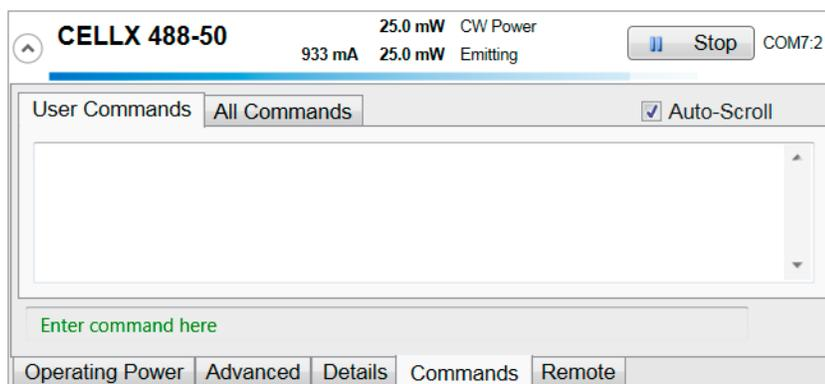
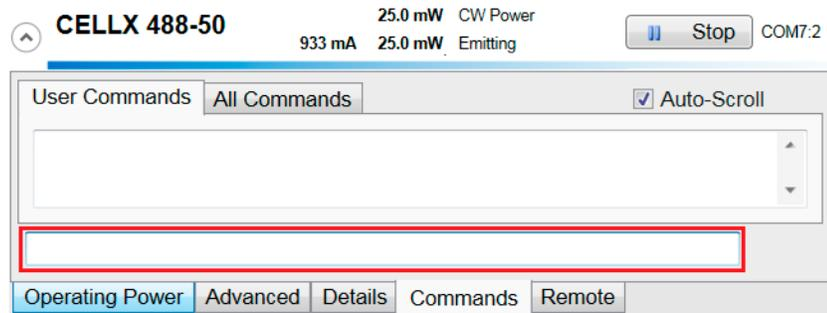

Figure 7-10. Coherent Connection–User Commands Tab
Figure 7-11. Coherent Connection–Enter Command
Notice the 'Auto-Scroll' check box at the top of this window. Refer to Figure 7-10. By default, auto-scroll is enabled at start-up.
- **User Commands**, the first section displayed, as shown in Figure 7-10. If no user commands have yet been used, the screen area is blank.
To enter a command, click the line in green to **Enter command here**. Refer to Figure 7-10. The area changes to a text box, as shown in Figure 7-11, where users can enter the command: